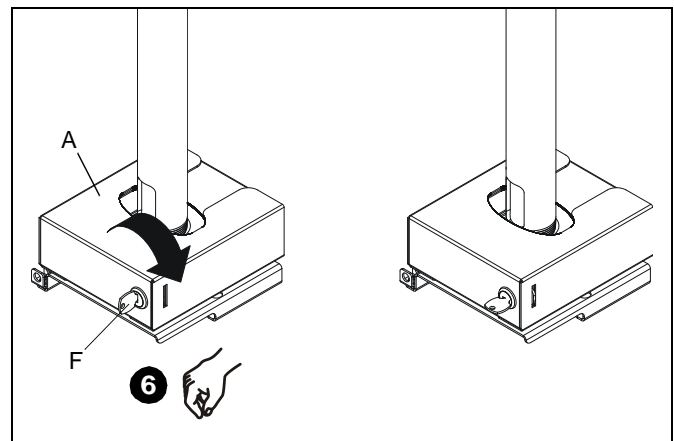

Figure 6
6. Insert key (F) into lock in enclosure (A) (See Figure 6). Rotate 1/4 turn to secure enclosure (A) to enclosure (B).